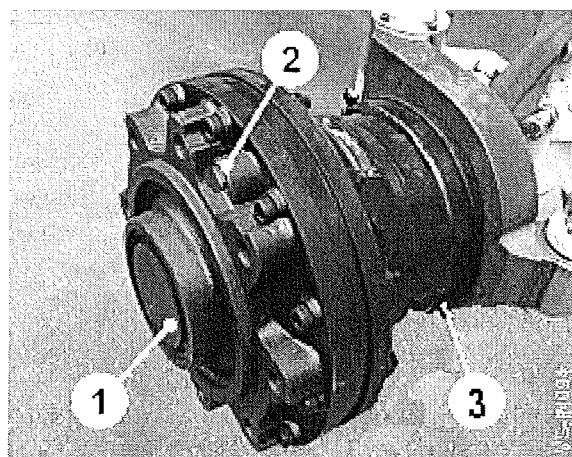

Fig 29
Ensure the wheel motor casings (item 1, fig 29) are filled with hydraulic oil before starting. Failure to do so may cause premature failure of the motors.
Each wheel motor is fitted with a grease ring (item 3, figure 29). To prevent the ingress of dirt and dust, pack the ring with grease daily using the two grease nipples.
Place the motor (item 1, fig 29) in a position in which one of the bleed screws (item 2, fig 29) is topmost. Remove the bleed screw and pour in hydraulic oil until all trapped air has been eliminated. Refit the bleed screw and repeat for the second motor. Run the motors unloaded. Finally, operate the motors under load and check for leaks and extraneous noise.